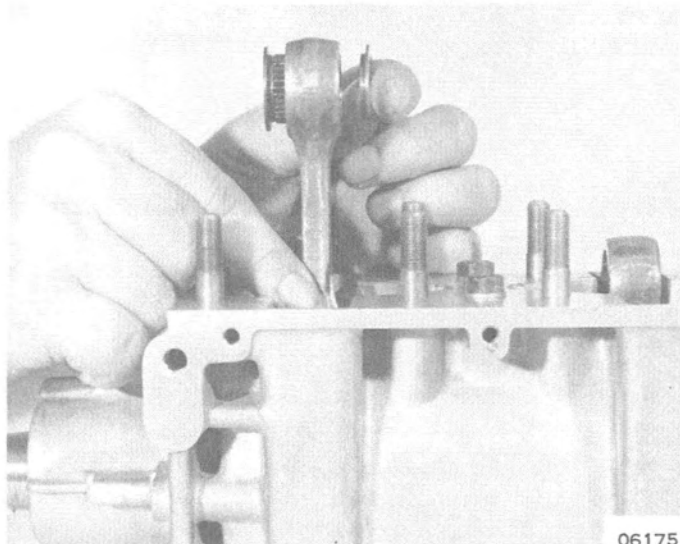

Figure 3. Placing Bearing Assembly in Connecting Rod
3. Coat sleeve with small amount of New Multipurpose Lubricant (C-92-49588) to hold needle bearings (29).
4. Place bearings around sleeve, then insert assembly into race of connecting rod. (Figure 3)